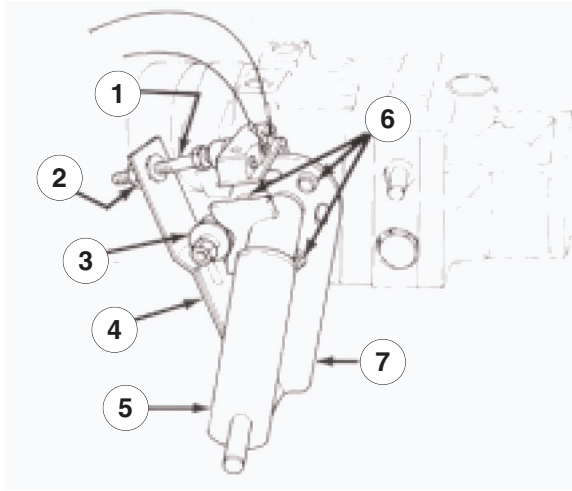

Figure 39
1. Park vehicle on a level surface and turn the engine off. Apply the parking brake, tip the seat forward, and actuate pump lever (Fig. 39) to ensure assembly is properly seated and operating freely. Correct any discrepancy.
6. Because the wheel is rotating, the pump plate must be adjusted. But before adjusting the pump plate, move the throttle to SLOW. If the wheel is rotating forward, loosen the capscrews, and lightly tap the bottom of the pump plate counterclockwise (Fig. 39). By contrast, tap the pump plate clockwise if wheel is rotating backward (Fig. 39). When the wheel stops rotating, tighten the capscrews holding the pump
- Loose or worn out ball bearing(Fig. 39).
- Weak or damaged leaf springs (Fig. 39). Replace.
2. Actuate the pump lever (Fig. 39) to ensure all parts are operating freely and seated properly.
3. Loosen the jam nut. Rotate the switch adjusting screw (Fig. 39) until there is a gap between the head of the screw and the switch button.